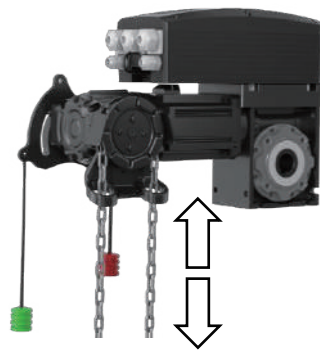

Fig 6
Make sure that the door can be opened and closed without any problems by pulling on the chain (2) in Fig. 6.